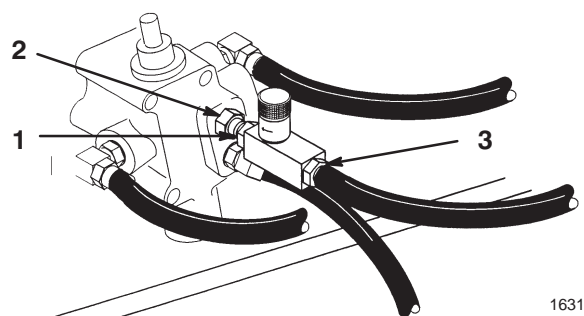

Figure 4
3. Thread valve assembly swivel fitting onto the adaptor fitting in valve body (Fig. 4).
5. Thread hose fitting, previously removed, onto the end fitting of the flow control valve assembly (Fig. 4).